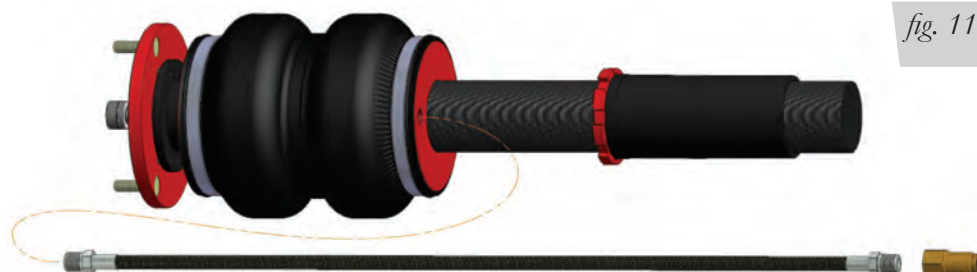

fig. 11
1. Begin by installing the leader line into the air spring (fig. 11). Wrap the threads of the leader hose with Teflon tape or thread sealant. Tighten the appropriate fitting to the airline 1 $\frac{3}{4}$ turns beyond hand tight. Tighten the leader line into the air spring 1 $\frac{3}{4}$ turns beyond hand tight.